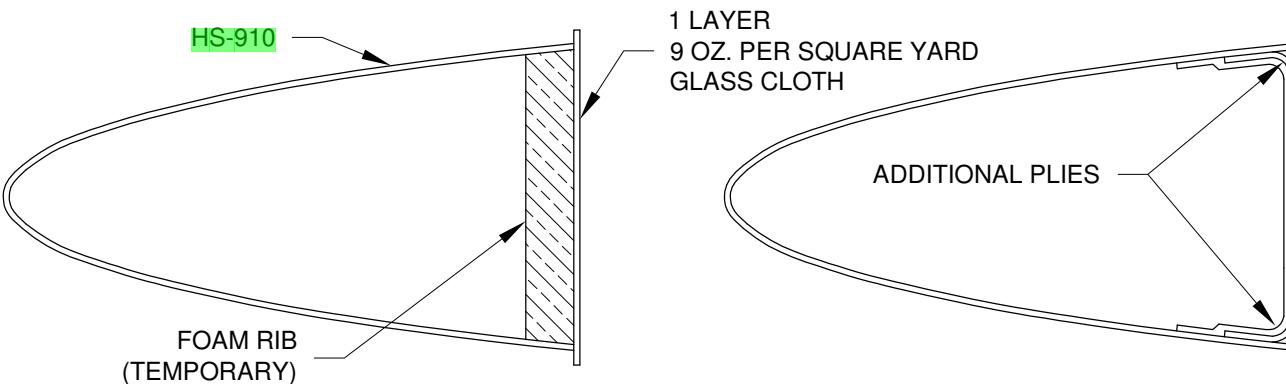

FIGURE 3: TEMPORARY RIB
Step 8: Trim a single layer of glass fabric to fit over the temporary rib and the aft edge of the HS-910 Horizontal Stabilizer Tip Fairing. Lay up this layer of glass over the temporary foam rib using either epoxy or polyester resin. See Figure 3.